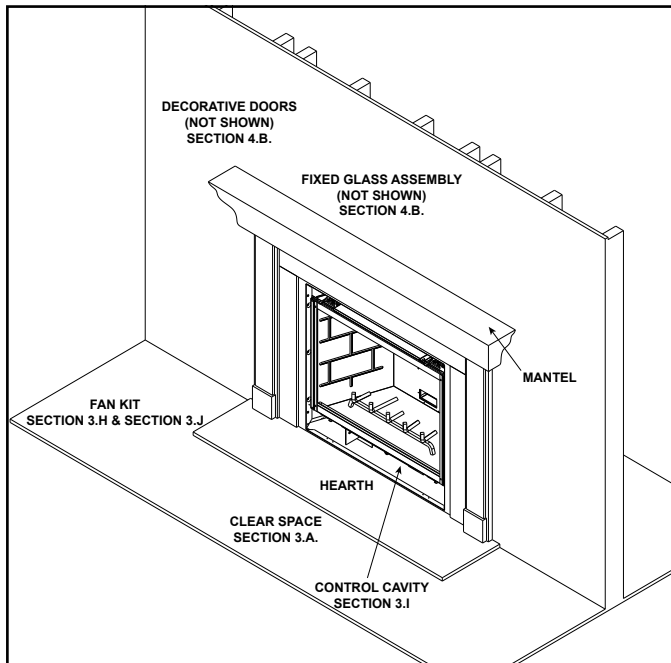

Figure 3.2 General Operating Parts
Figure 3.2 references the general operating parts of the appliance and the section of this manual in which they are discussed.
1. Access the control cavity of the appliance. See Figure 3.2 for location. The decorative front or door may need to be removed.